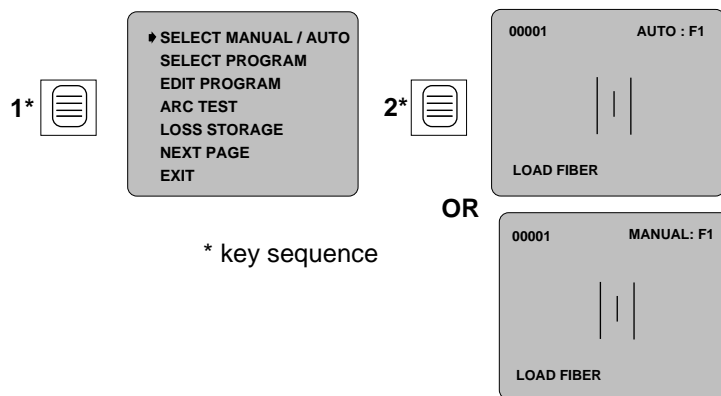

Figure 53
6.3 After turning on the set, select either Manual or Automatic operation (Figure 53).